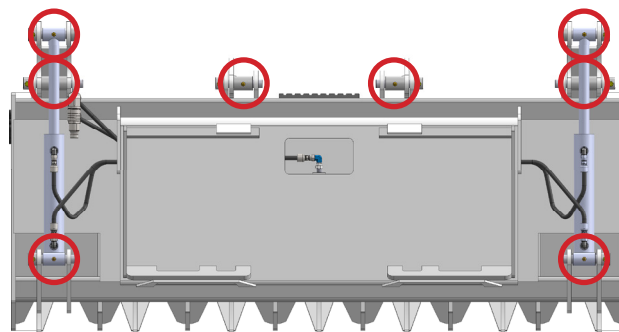

Figure 1
The Severe Duty Grapple Rakes have eight (8) grease points (see Figure 1).